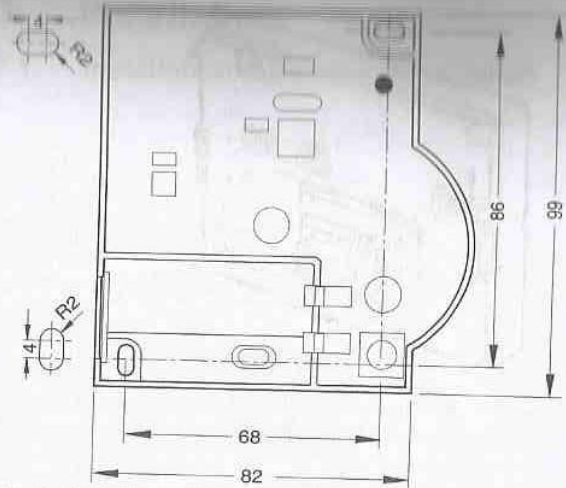

Fig. 12: Drilling scheme (measurements in mm)
- ▶ Mark the drill holes according to the drilling template (see Fig. 12).